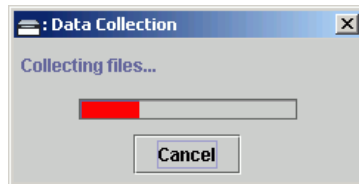

Figure 4-31 Data Collection Dialog Box
6. The *Data Collection* dialog box (Figure 4-31) displays with a progress bar that shows percent completion of the data collection process. When the process reaches 100%, the *Cancel* button changes to a *Close* Button.